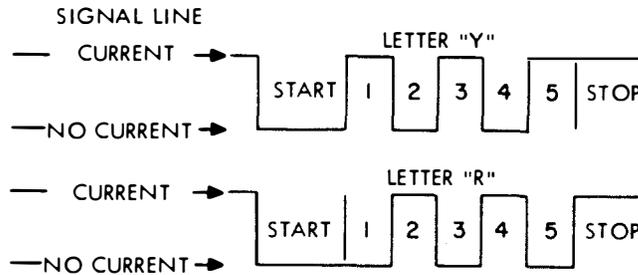

Figure 3-2. Code Representations of the Letters "R" and "Y"
(1) The intelligence elements are preceded by a start element (always marking) which is 1.42 times as long as each of the other elements. Thus, each combination consists of 7.42 units of time (referred to as a 7.42 unit transmission pattern). The start and stop elements provide for mechanical synchronization between the transmitting and receiving equipment. A graphic illustration of the marking and spacing elements in each sequence may be found in figure 3-2, Code Representation